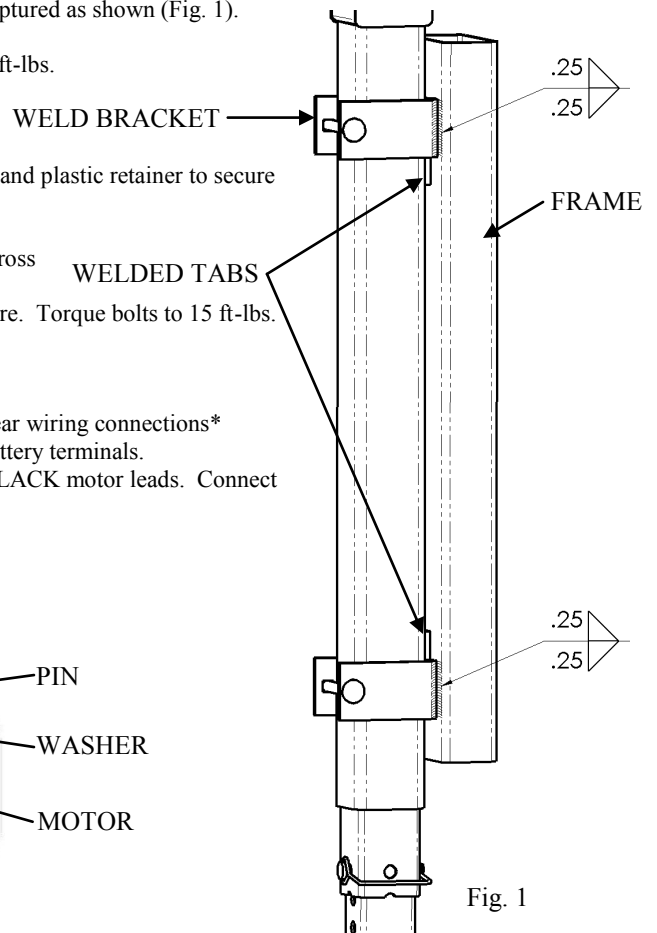

Fig. 1
- 1) Position weld brackets to frame in such a manner so that welded tabs on jack are captured as shown (Fig. 1).